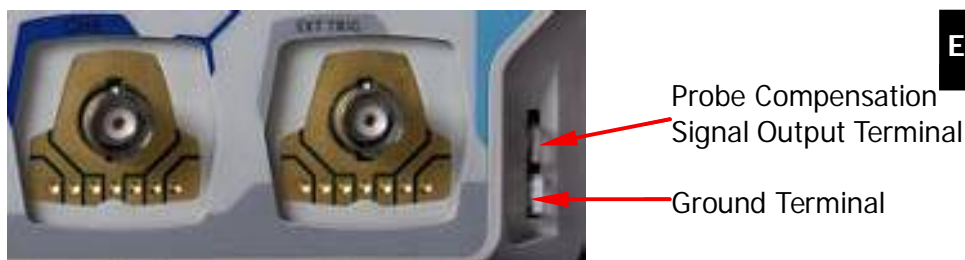

Figure 7 To Use the Compensation Signal
2. Connect the ground alligator clip of the probe to the "Ground Terminal" as shown in Figure 7 below.
3. Connect one end of the probe to CH1 input terminal of the oscilloscope, and connect the other end to the "Probe Compensation Signal Output Terminal" as shown in Figure 7.